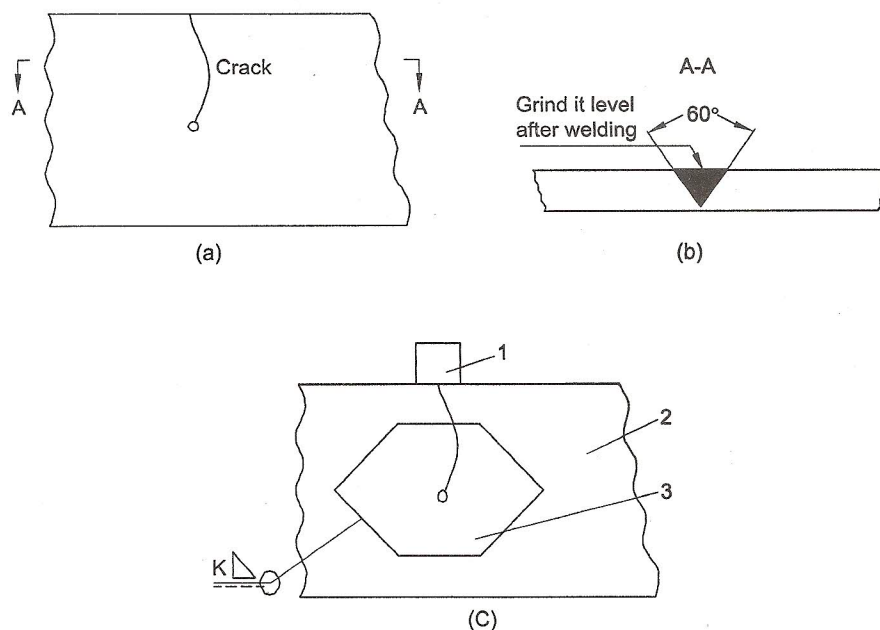

Fig. 09-02 Restoration sketch of crack steel plate
a. For cracks of flat steel plate, please adopt the method and steps of restoration showed in Fig. 09-02:
- 1) Drill a hole with a diameter of 2~3 times big of the crack width at the end of the crack to prevent extending of the crack, as showed in Fig. 09-02 (a).
- 2) Chisel a 60° groove along the both sides of the crack, as showed in Fig. 09-02 (b).
- 3) Build-up weld the groove. Place a joint plate of generating the arc 1 at the crack of the mother-board edge (See Fig. 09-02(c)), and build-up weld to 1~2 mm higher than the mother-board, and then cut the joint plate of generating the arc 1 and make grinding.
- 5) Select a reinforced backing board with a proper thickness (normally is 1/2 thick of the mother-board), which is shaped like 3 showed in Fig. 09-02.